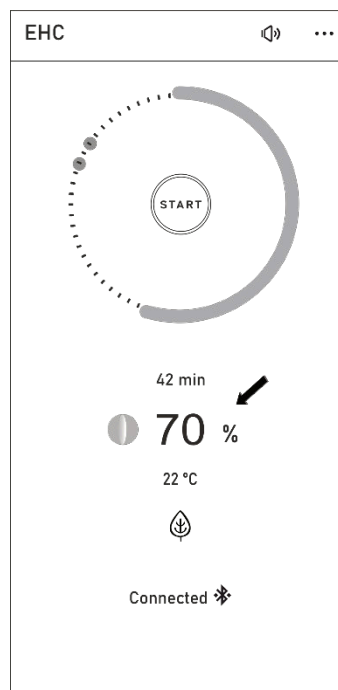

Fig. 5 – Air regulated¹
- Then the EHC regulates the air control according to the temperature (the LED colour on the Stove colour changes from YELLOW to GREEN so as in the application) – Fig. 5. The flames are gradually extinguished and the logs burn out.